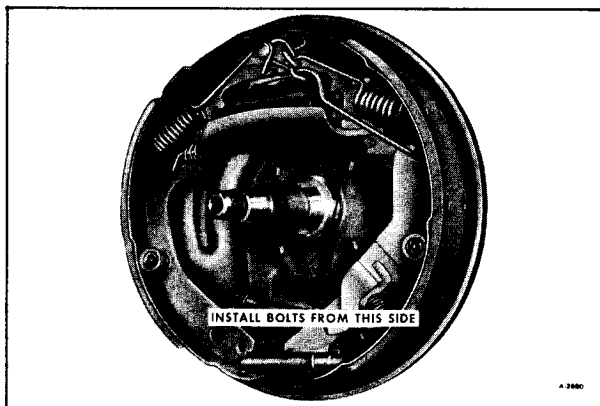

Figure 6
3. Install new backing plate assembly with new bolts, washers and nuts as shown in figure 6. Torque bolts 35-45 ft. lbs.